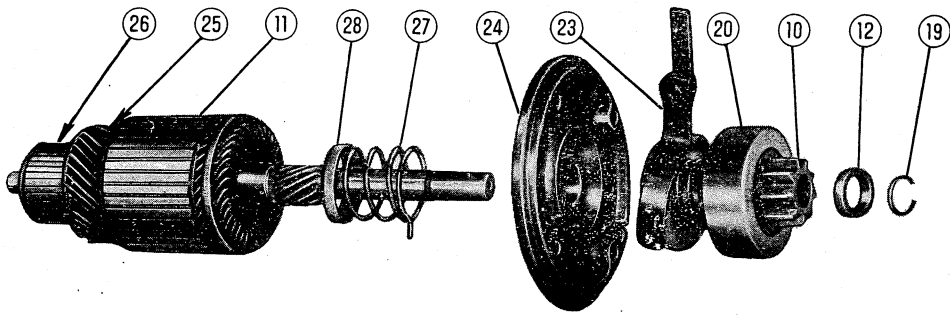
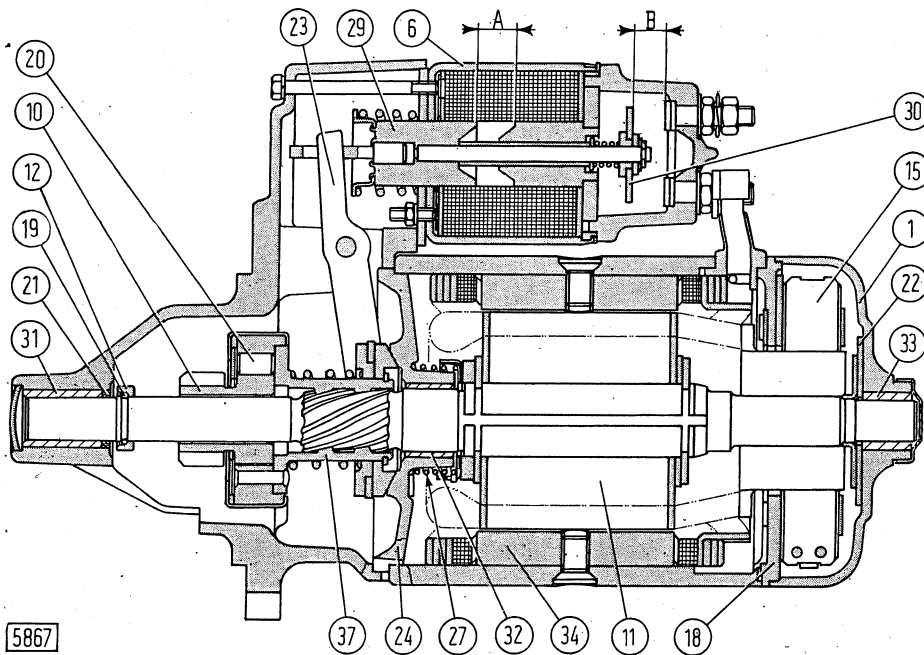

Fig.3 - Armature assembly (11) with central flange (24) and freewheel .
Fig.4 - Section of FIAT starting motor with electromagnetically operating pinion gear shift.
- an electromagnet (6, fig.4) provided internally with a core (29) that under the magnetic force induced by the solenoid coil moves forward to carry out the following operations : exerting pressure on the return spring, positive engagement of the pinion with the flywheel ring gear through control lever (23); connection in circuit of the field winding fixed contacts, hence allowing the passage of the energising current necessary to operate the starter ;
- an armature (11, fig.4) revolving on self-oiling bushings and provided, at the end opposite the commutator , with helical splines along which the pinion moves longitudinally, allowing engagement of the pinion and flywheel gears ;
- a pinion (10) moving longitudinally along the armature to which it is connected mechanically by means of a roller freewheel device. This device connects armature and pinion when the latter meets resistance to rotation (stalling and starting phase) whilst it allows the pinion to slip once the engine fires and so prevents pinion overdriving and the armature attaining excessive speeds.
- Remove the back cover (1, fig. 4) complete with thrust disc (22), with
- remove the solenoid assembly (6 , fig. 4) and withdraw the pin (9) after the removal of the retaining cotter pin ;
- separate the driving end head (8) from the armature (11);
- remove the snap ring (19) to split the components as illustrated in fig. 3.
Reassemble the motor by referring to fig.4 and considering the following notes :